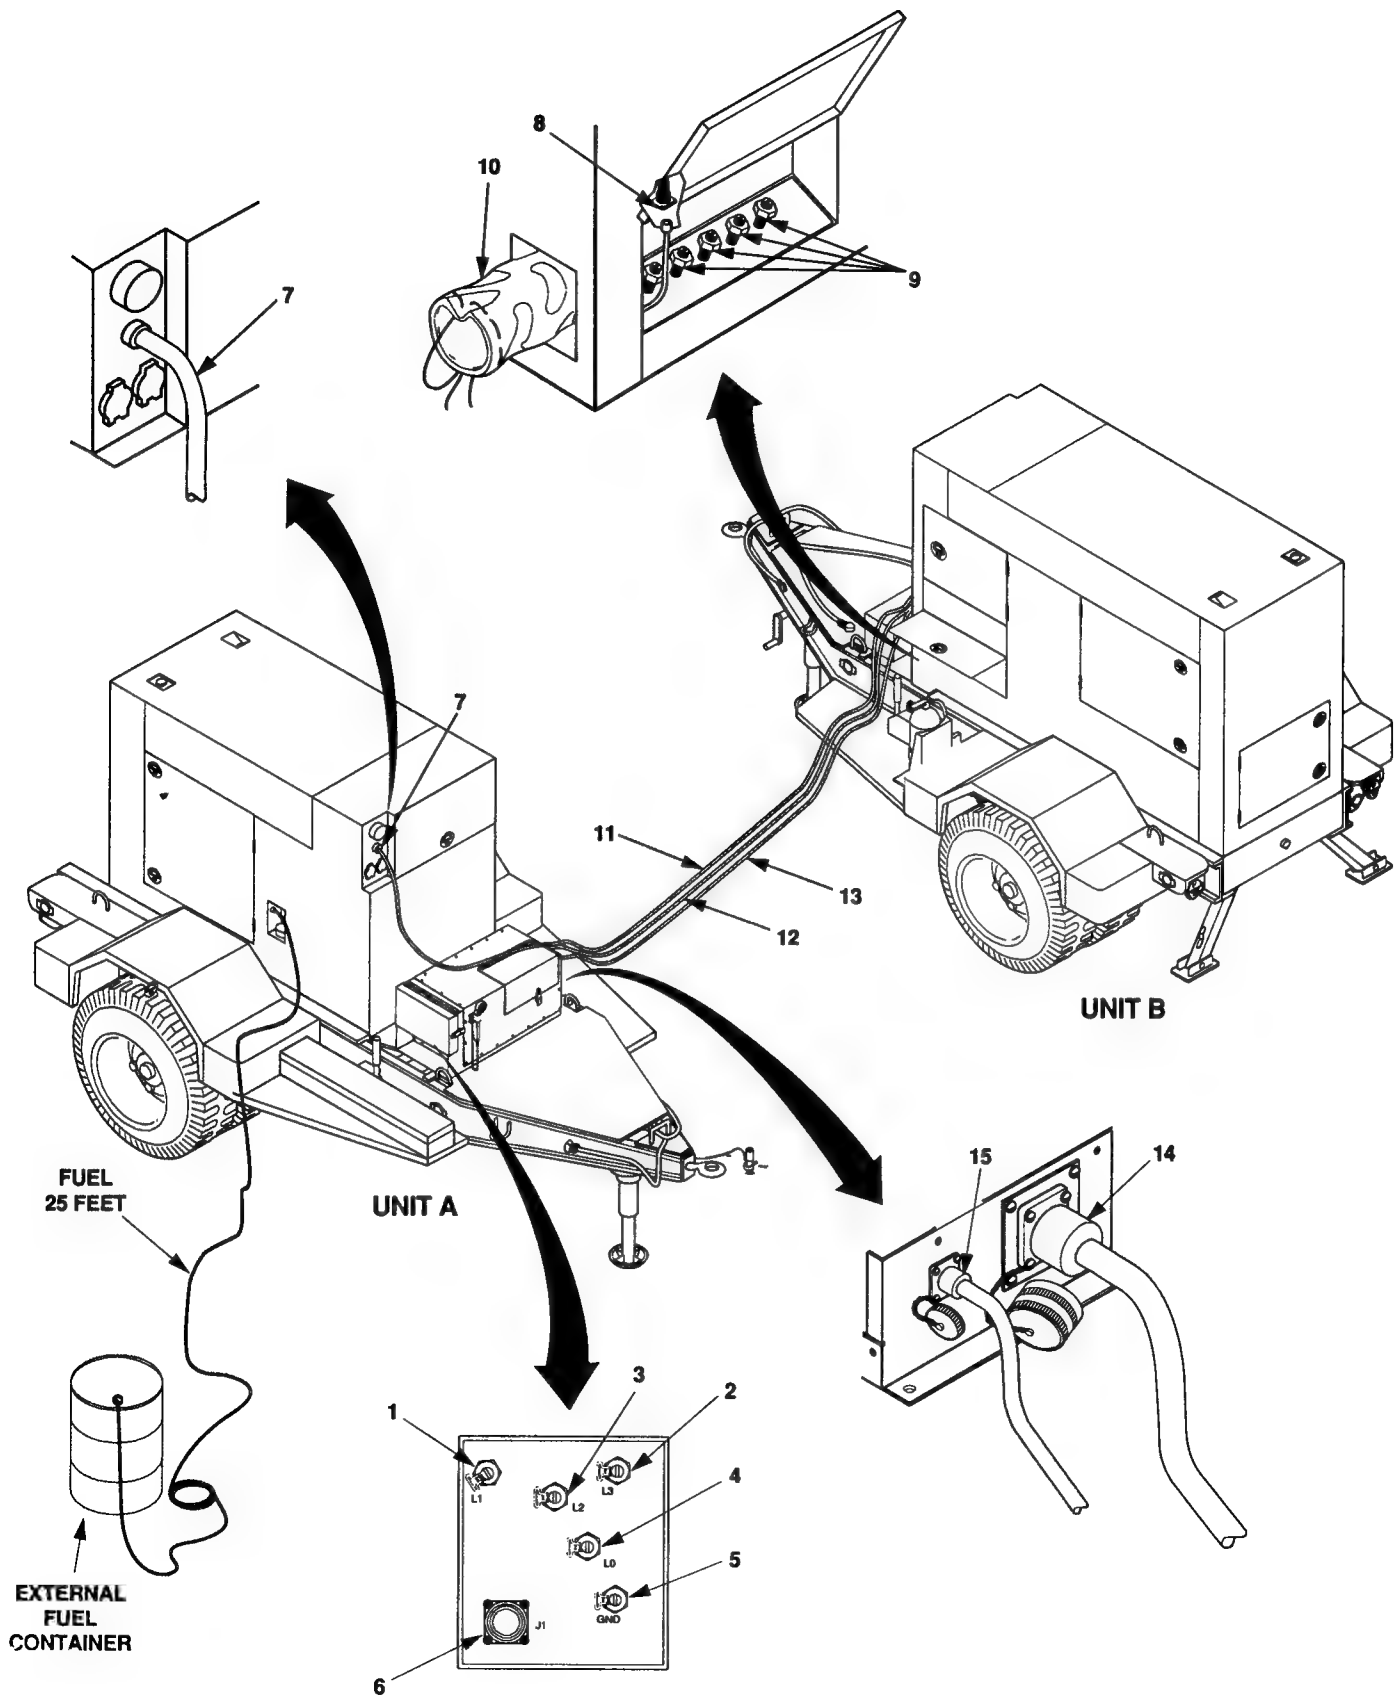

Figure 2-15. Disconnection of Power Plant.
2-7-2.2 Power Plant. Load may be connected to the switch box \(figure 2-15\) by either of two methods. One method is to connect the load cable to the J 1 connector (6). The other method is to connect load cables to the load terminals (1, 2, 3, 4, and 5). Disconnect the load cable using the appropriate method. Disconnect unit A from unit B as follows:
- a. Disconnect power cable (12) as follows:
- (1) Disconnect leads from load terminals (9) and remove from power cable sock (10).
- (2) Disconnect plug end of power cable (12) from connector J 2 (14).